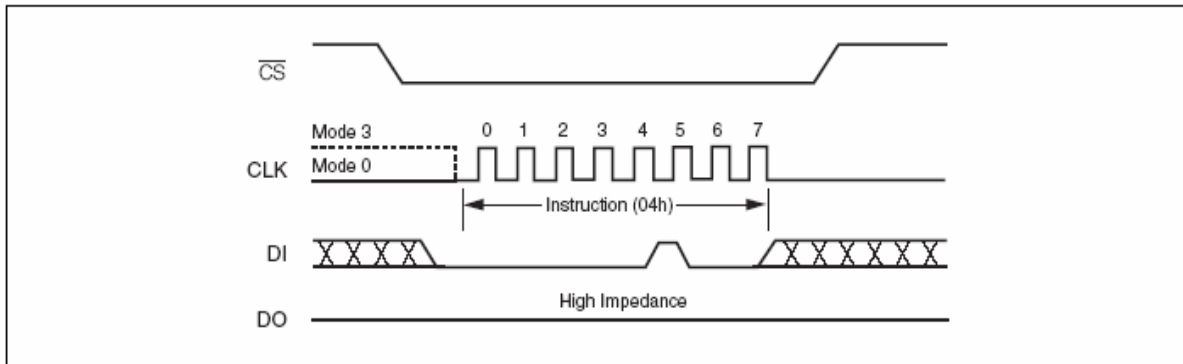

Figure 6. Write Disable Instruction Sequence Diagram
The Write Disable instruction (Figure 6) resets the Write Enable Latch (WEL) bit in the Status Register to a 0 or **exit from EXT / OTP mode to normal mode**. The Write Disable instruction is entered by driving Chip Select (CS#) low, shifting the instruction code “04h” into the DI pin and then driving Chip Select (CS#) high. Note that the WEL bit is automatically reset after Power-up and upon completion of the Write Status Register, Page Program, Sector Erase, Block Erase (BE) and Chip Erase instructions.